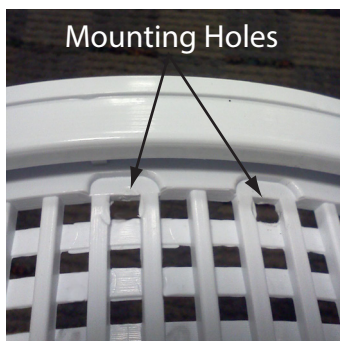

FIG. 1
1. Locate the two upper mounting holes on the skimmer basket just under the upper lip. See Fig. 1.